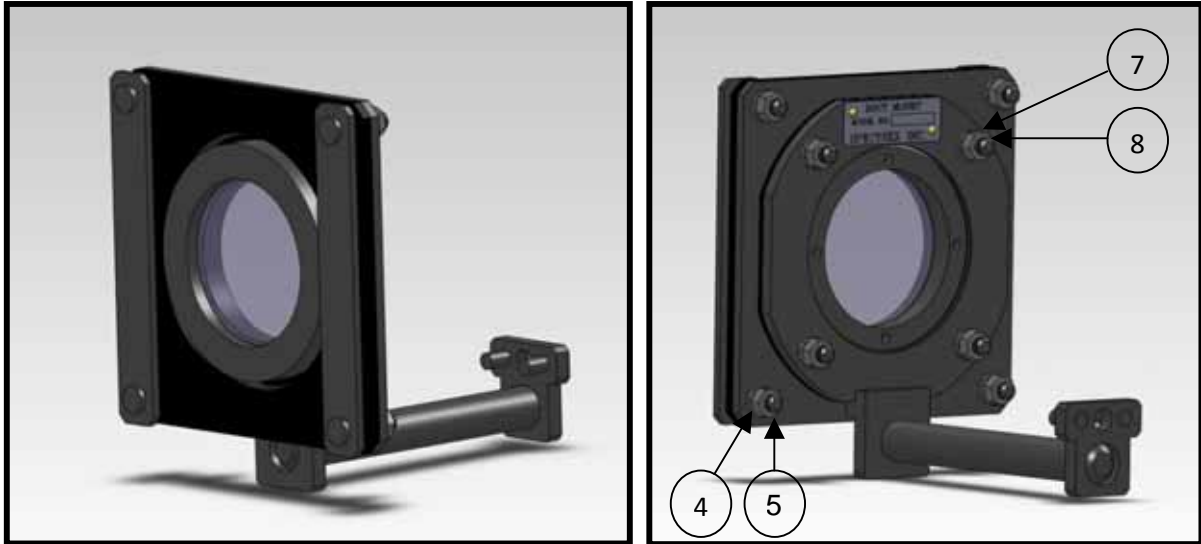

Figure 2 – Duct Mount Disassembly
Open nuts (5) and (8), and washers (4) and (7). Dismount item (1) internal plate and item (3) base plate (see figure 2 and 3).